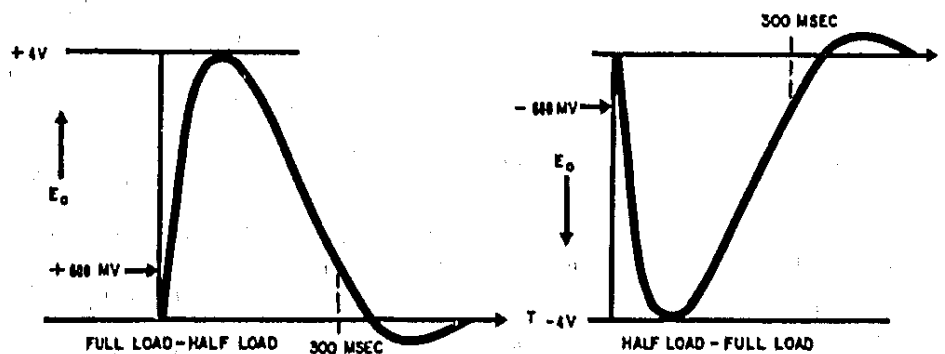

FIGURE 5-5. TRANSIENT RECOVERY TIME, WAVEFORM
- Oscilloscope display should be as shown in figure 5-5.